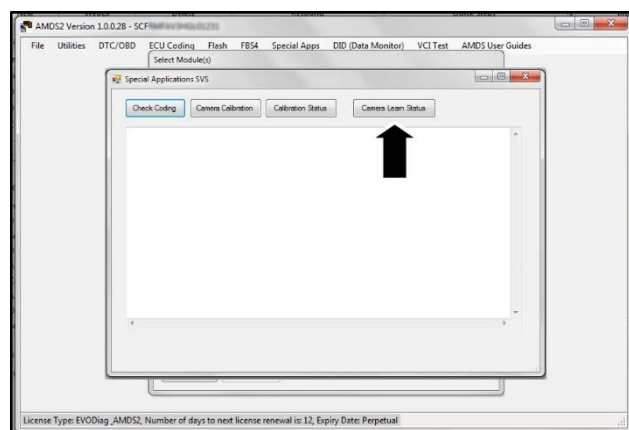

Figure 7
9. When a camera or the SVS module is replaced the SVS system automatically learns the camera serial numbers. To do a check of the camera learn status, select "Camera Learn Status" (refer to Figure 7)